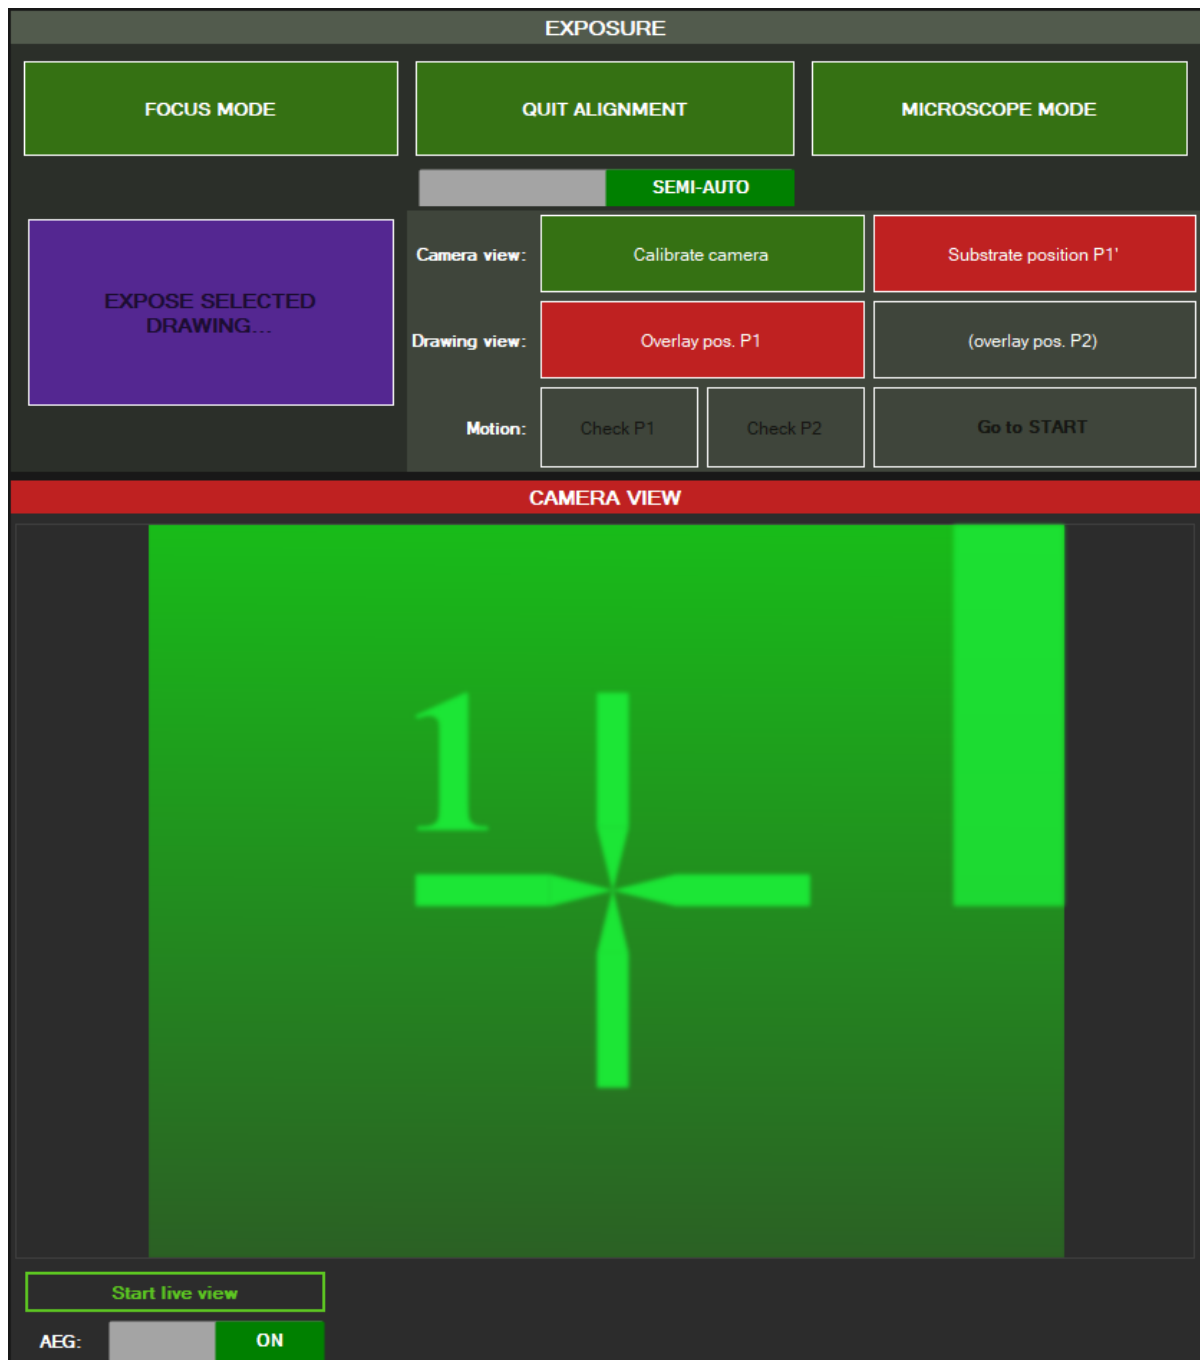

Figure 63 - Semi-auto alignment: defining point P1'
- Selection of point P1' (Figure 61b): click on the **Substrate position P1'** button. As for the previous step, the camera live view may start and the mouse cursor shape may change. Move the stage (see section 4.1.1) until the first patterned cross is visible (numbered "1" in this example), then click on its center (point P1') as shown in Figure 63.